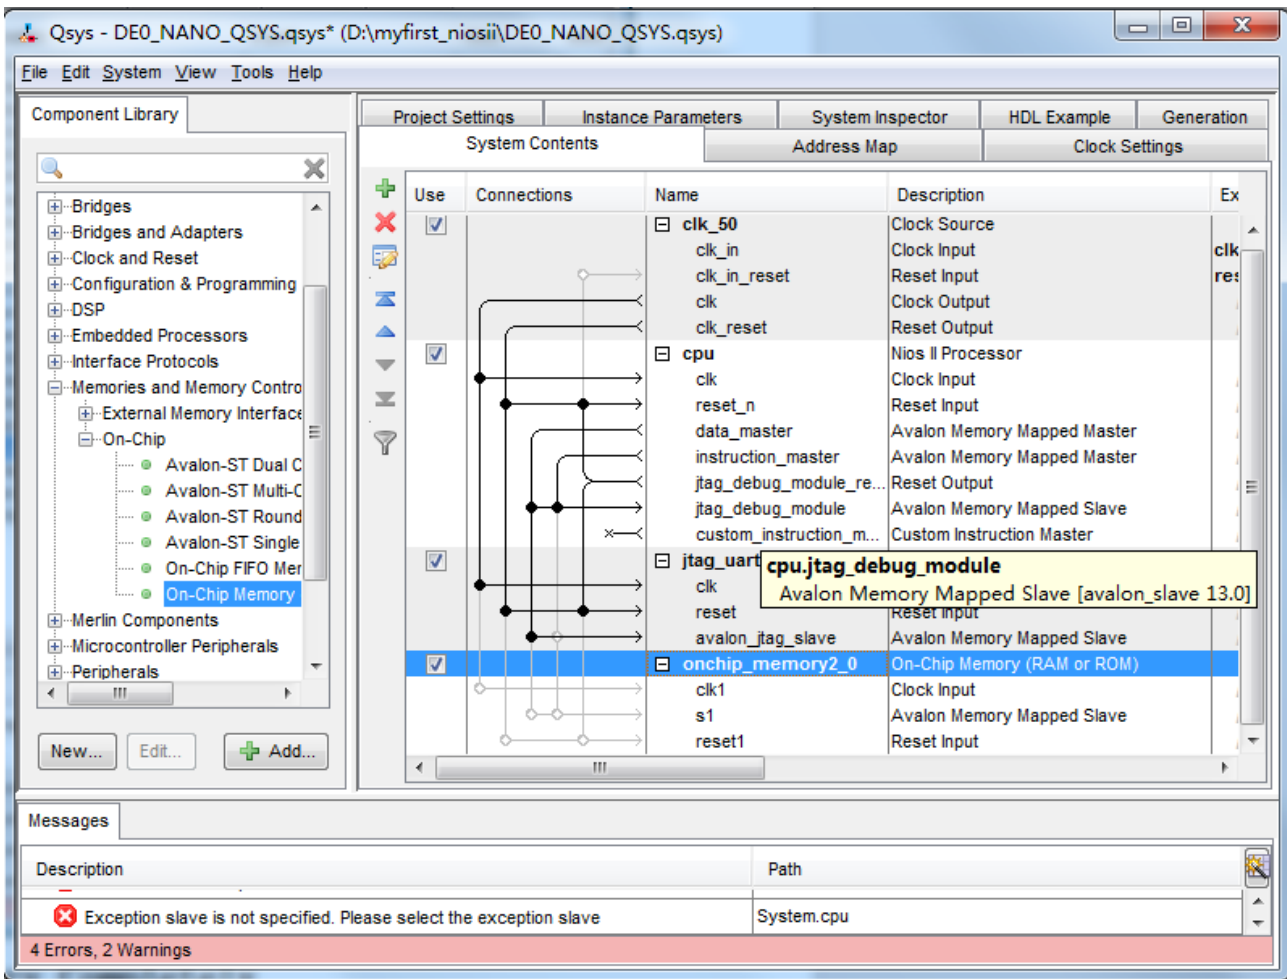

Figure 1-29 Add On-Chip memory Completely
17. Modify Total memory size to 32768 as shown in **Figure 1-**. Click Finish to return to the window as in **Figure 1-29**.